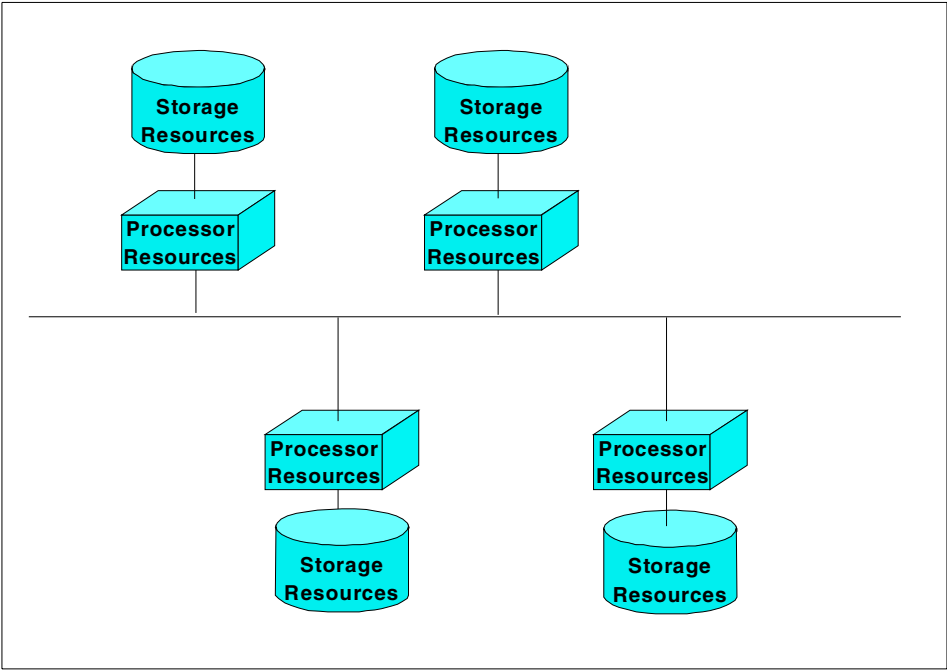

Figure 2. Local storage
**Local storage** — The traditional connection type of storage resource is local storage (see Figure 2). Storage resource is connected only to the local host and is not physically shared. Data stored on local storage is primarily used by the local host.